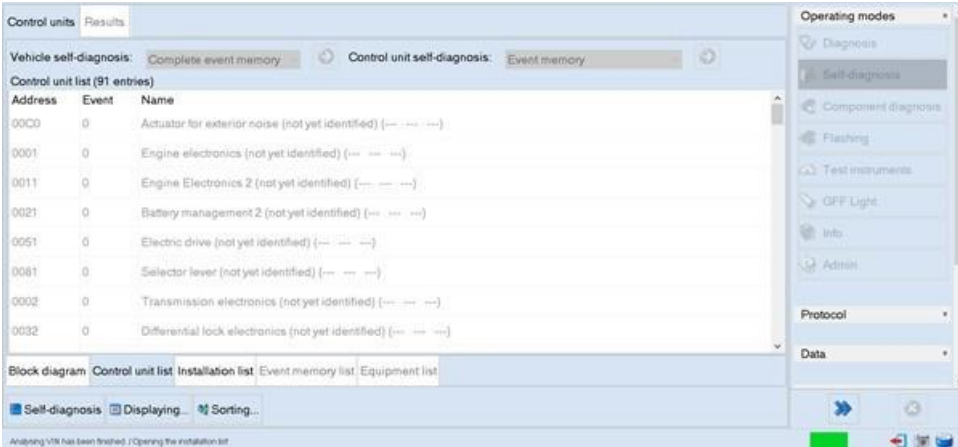

Figure 3
11) Navigate to Self-diagnosis session (Figure 3)